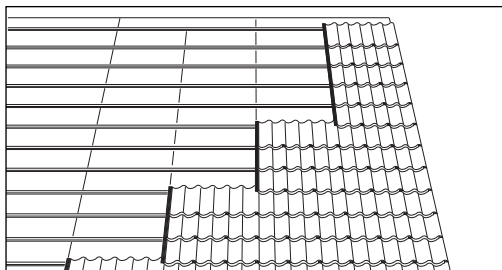

Fig 9 – Completion of tiling
- 2 Work from right to left (Fig 9). Depending on fixing specifications, you may leave out some tiles towards left-hand verge and make use of tile battens as a ladder enabling upper part of roof to be reached for fixing ridges.